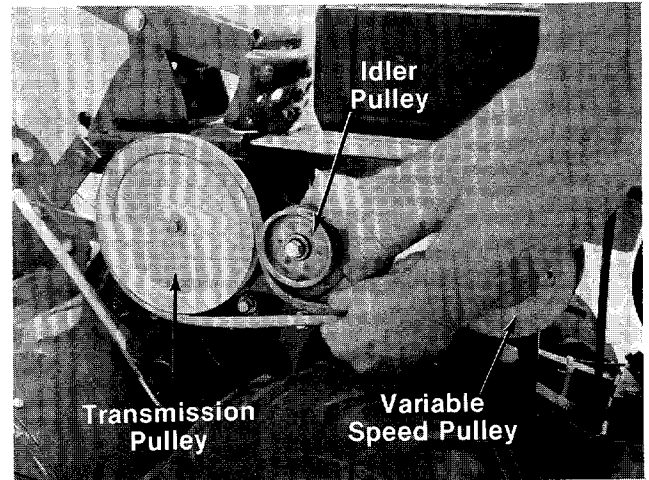

FIGURE 32.
- Lift up on the idler pulley by hand, and remove the belt from beneath the idler pulley. Lift belt off the transmission pulley and variable speed pulley. See figure 32.